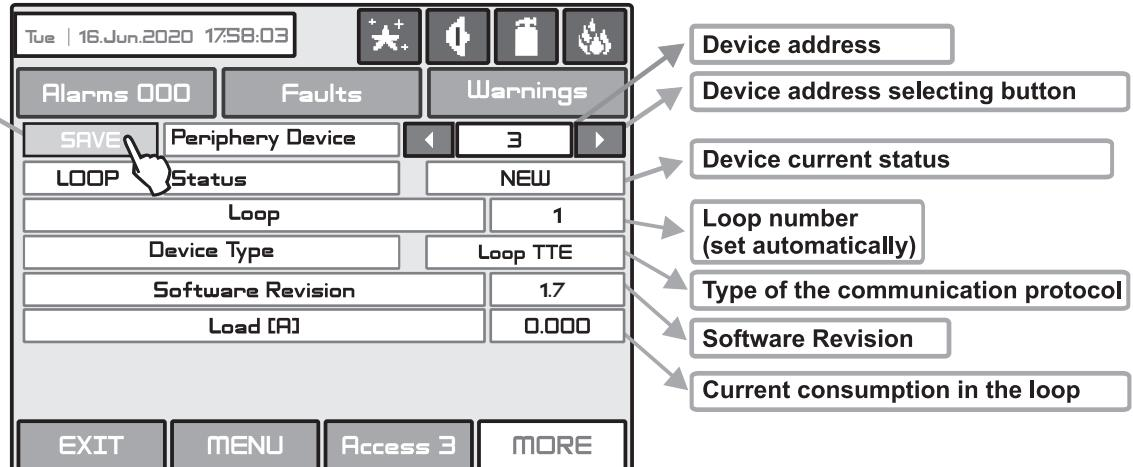

**Fig. Screen 5 PSU Parameters (Power source)**
Choosing “**Periphery**” button leads to submenu for entering the parameters of the available periphery devices in the system configuration - Fig. Screen 5. The list of supported periphery devices is:
- **PSU** Power source - see Fig. Screen 5
On the PSU screen are visible the current technical characteristics of the main power supply unit - see Fig. Screen 5. “*External PSU Check*” setting button. This is an option for continuous monitoring and reporting for Fault condition in the external power supply unit - see Figure 17. The external power supply unit (IRIS PS72 for example) is connected to “Fault In” and “Fault Out” terminals of the main power supply unit. When the option is Enabled (ON), the status of the external power supply is monitored. The panel will display a fault message “External Power Supply Fault, Periphery Device 1-PSU” in case of any trouble with the external power supply unit.